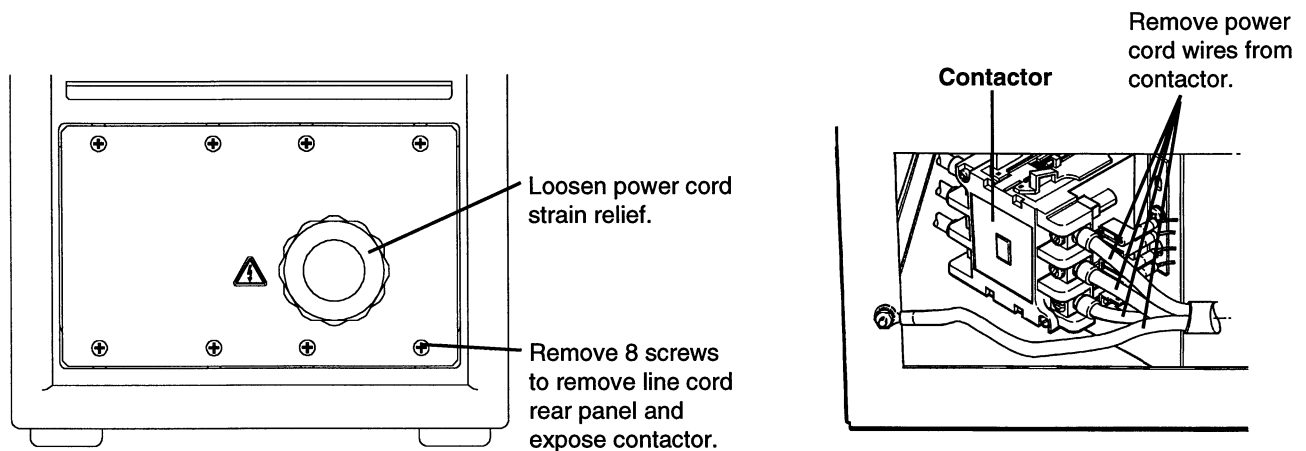

Figure 2-3 Removal of Power Cord from Powermax1100 Power Supply
3. If connected, remove the power cord from the power supply. See Figure 2-3.